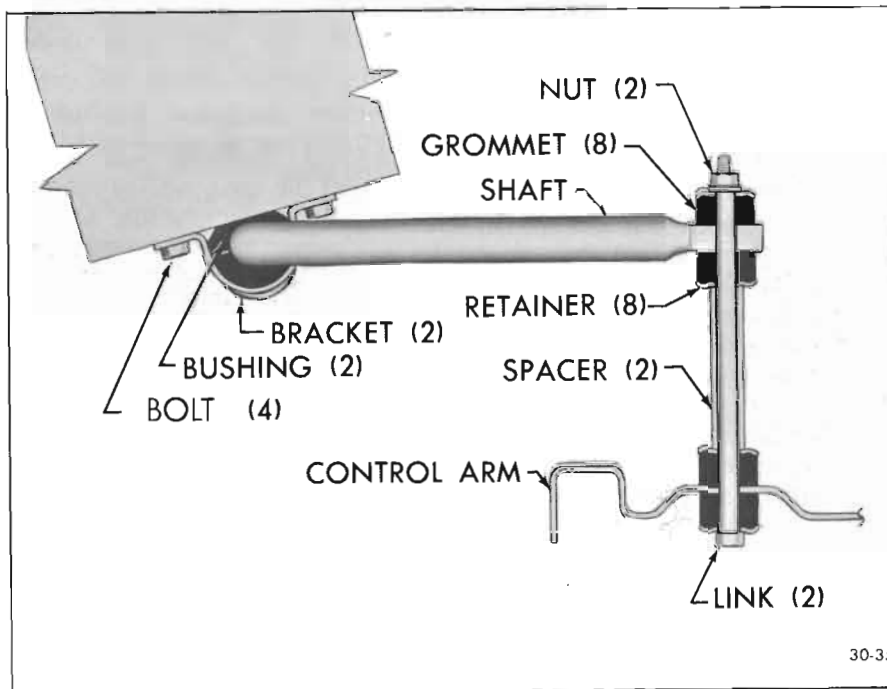

Figure 30-35—Stabilizer Link Installation
10. Reinstall stabilizer link and grommets. See Figure 30-35.